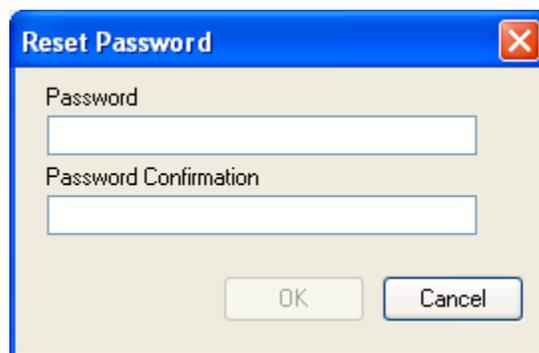

Figure 57 - Reset Password Window
1. Click on the **Reset Password** button. The **Reset Password** window (Figure 57) appears.